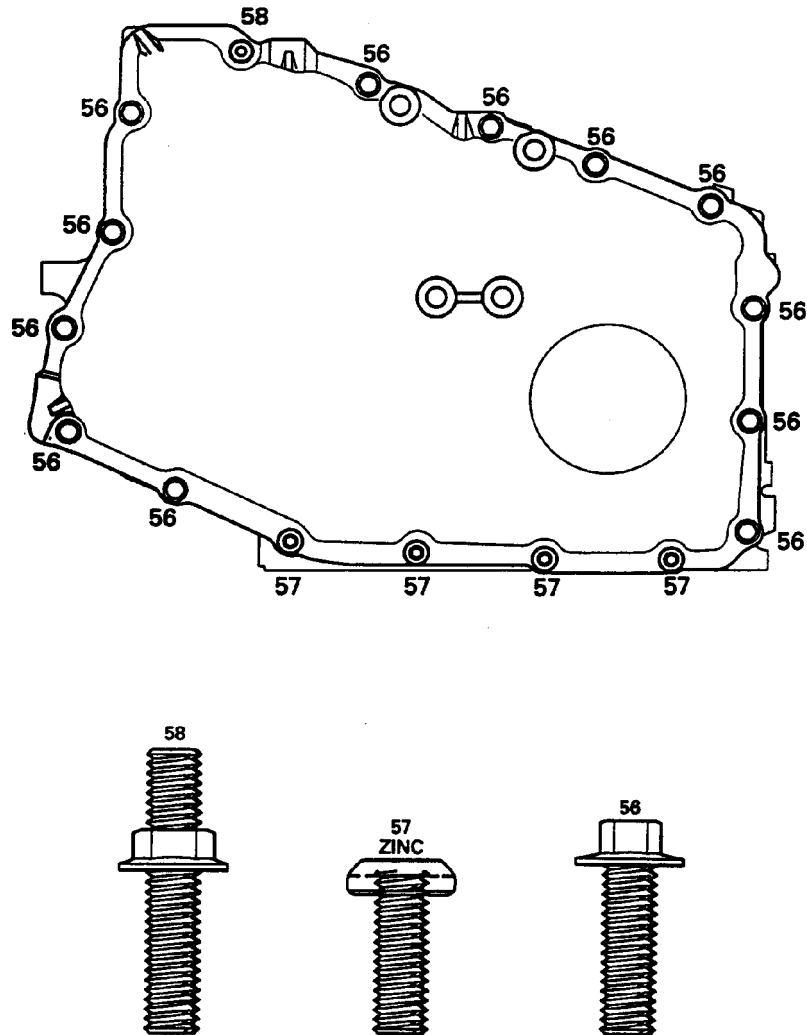
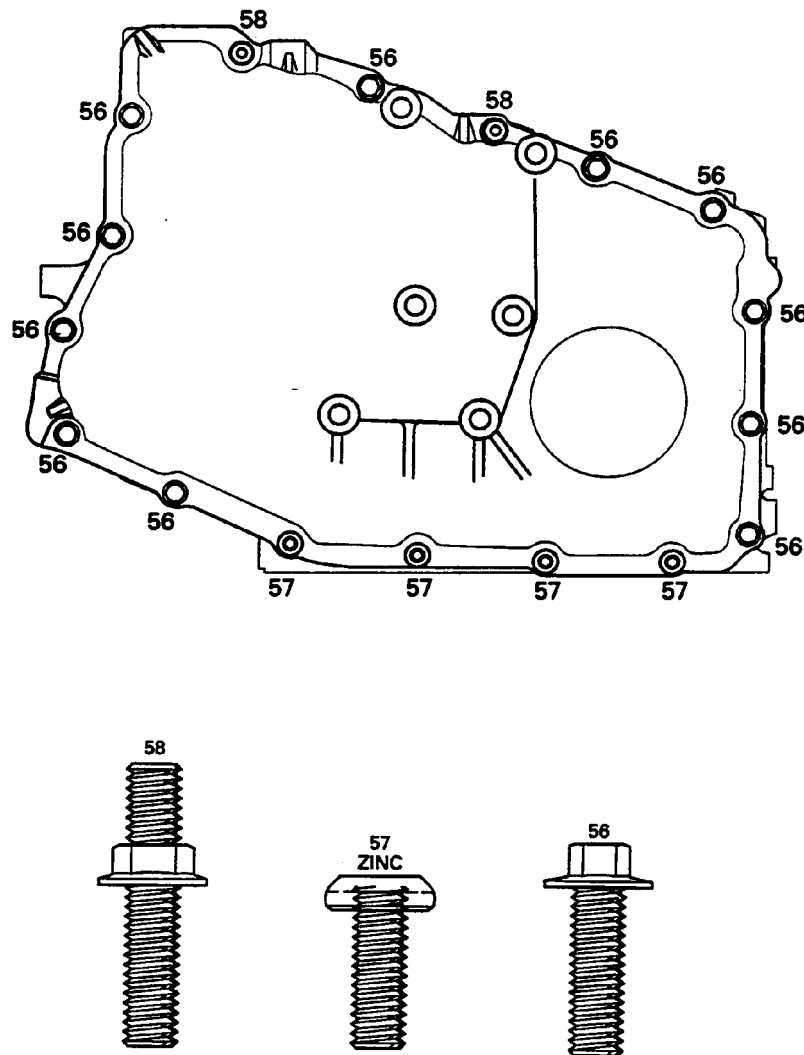
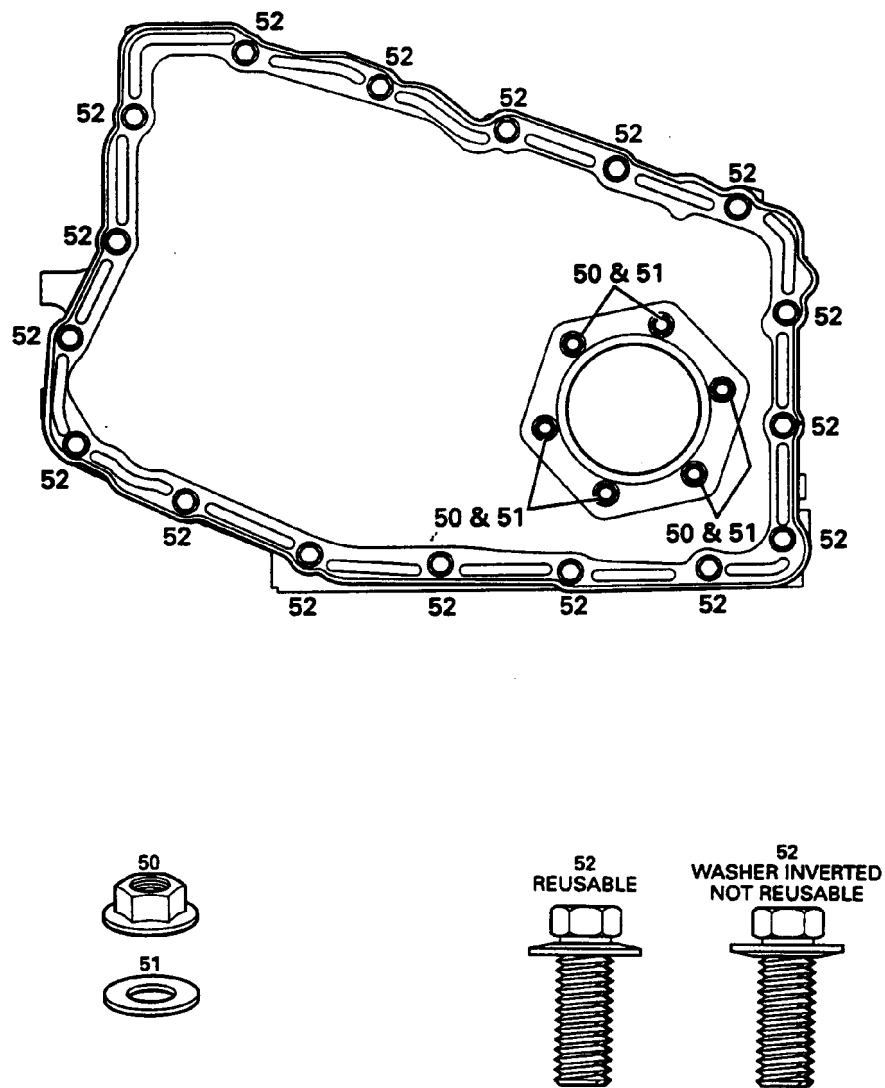

Figure 3
Figure 4
Figure 5
**(1) STRUCTURAL SIDE COVER** - Now made of cast aluminum with drilled and tapped bosses for mounting into the vehicle (See Figure 1). There are currently two different structural side covers used in different car bodies, one with four cast bosses (See Figure 3), and one with six cast bosses (See Figure 4).
**(4) SIDE COVER RETAINING BOLTS** - Have all been changed to accommodate the new structural side cover. There are currently three different types of the retaining bolts used per vehicle, and are shown in Figures 3 and 4, along with their proper locations. Refer to Figures 3 and 4, depending on the model you are working on. Refer to Figure 5 for the stamped steel cover.
The Structural Side Covers MUST be used on the 1994 models that are shown in Figures 3 and 4.